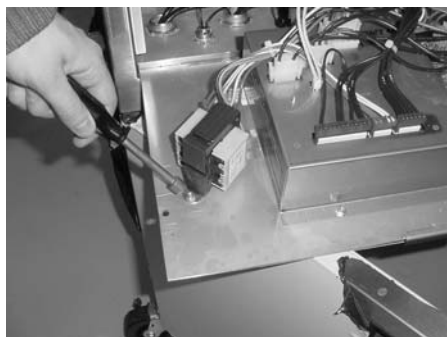

Figure 2-27
4. Using a 3/8" nut-driver, remove the two nuts securing the transformer to the panel and remove transformer. Figure 2-27.